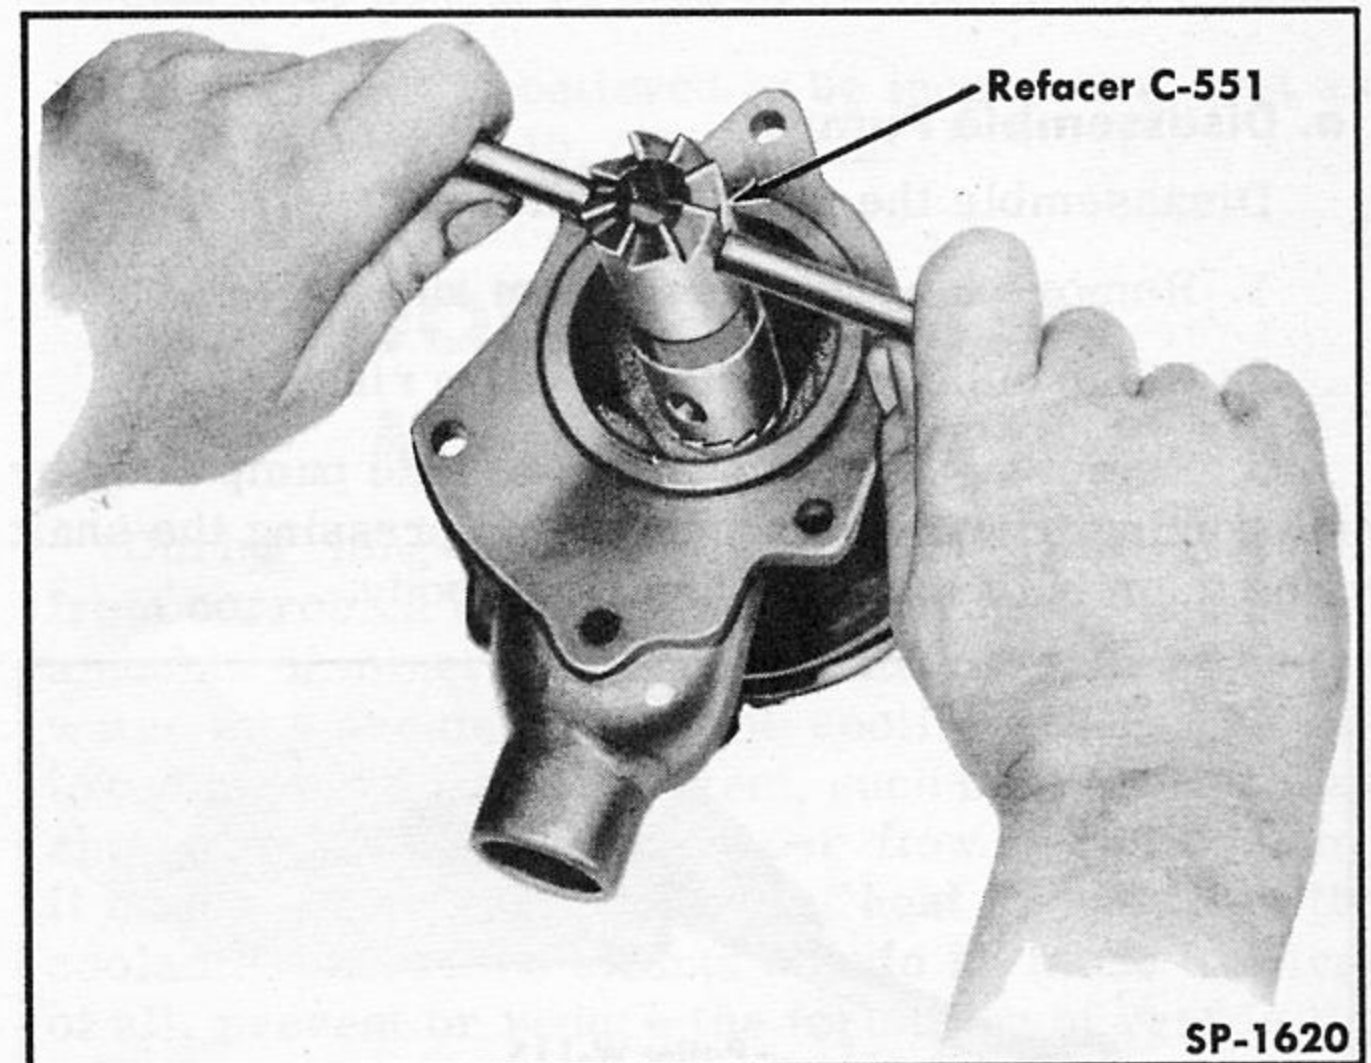

Fig. 97—Refacing Seat in Water Pump Body—4 Cylinder
3. Seat surface on pump body must be smooth. If not, reface, using Water Pump Housing Seat Refacer C-551 (Fig. 97). This operation should be performed after drive shaft assembly is installed (step 1 below). Always install a new carbon sealing washer after refacing seat surface.